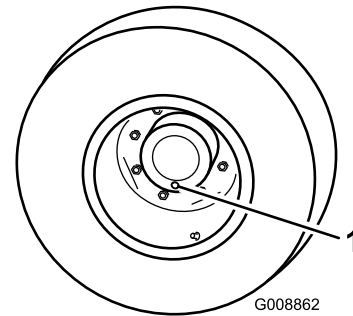

Figure 72
1. Position the machine on a level surface and position a wheel so that 1 of the check plugs is at the lowest (6 o'clock) position (Figure 72).